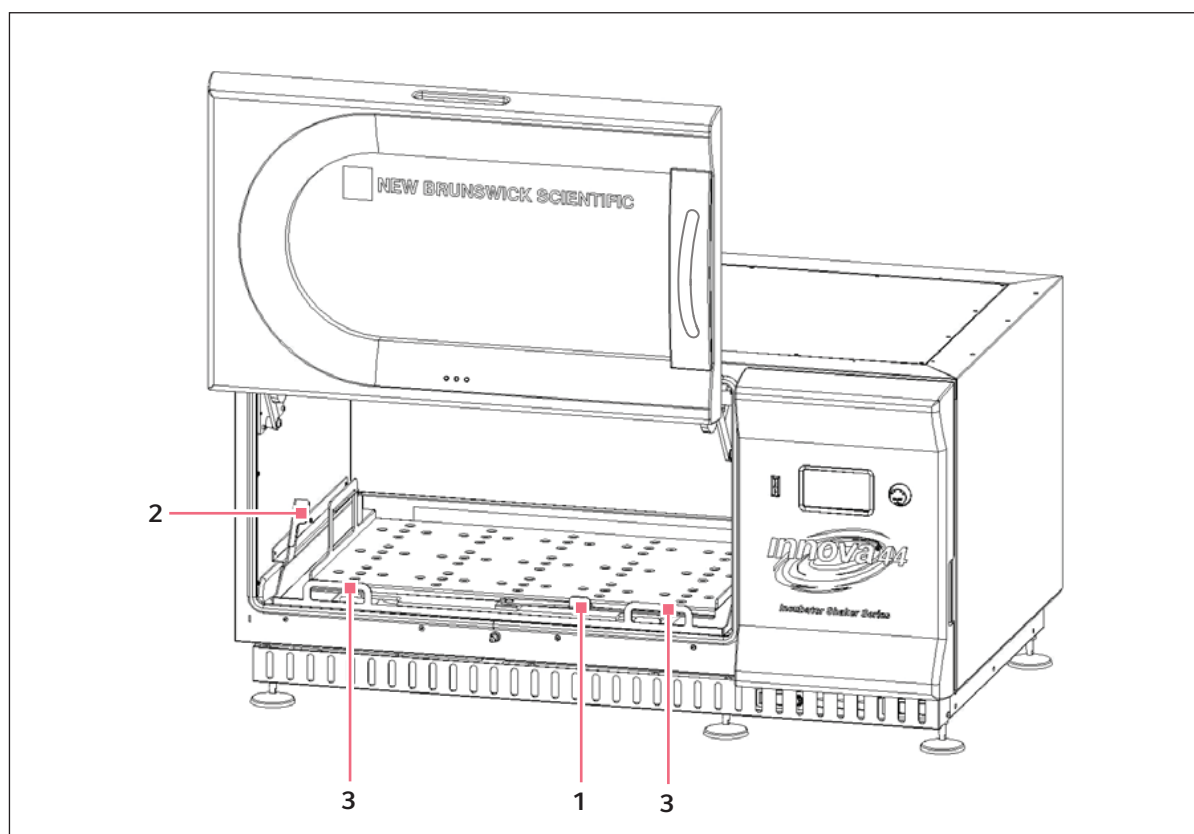

Fig. 8-2: Install Slide-Out Platform
1. With reference to figure below (see Fig. 8-2 on p. 42), place the platform on the subplatform, making sure the two slots in the back of the platform are inserted under the subplatform's blocks in the back, and the slide-out tray handles are at the front edge, facing up.